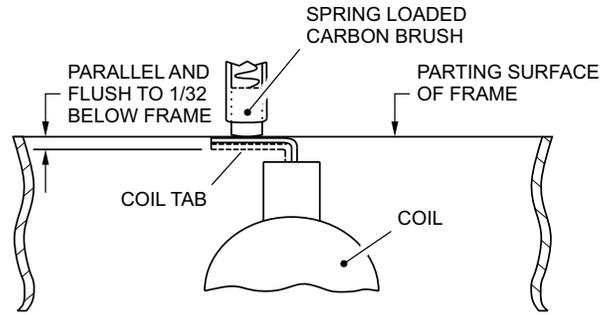

Figure 7.8
- C. Position the coil high tension lead flush to 1/32 inch below and parallel to the parting surface of the magneto frame. (See Figure 7.8.)